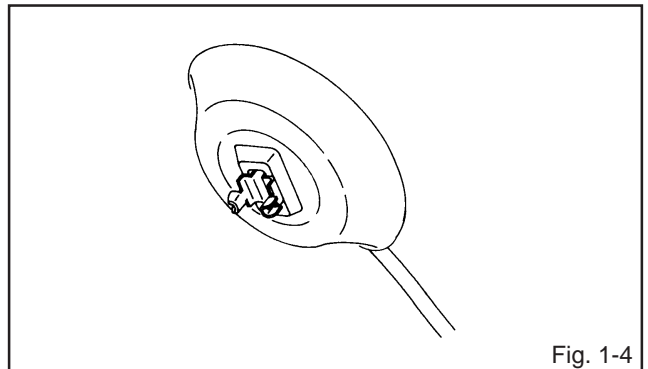

Fig. 1-4
3. Turn over the Rubber Cap. **(Refer to Fig. 1-4)**